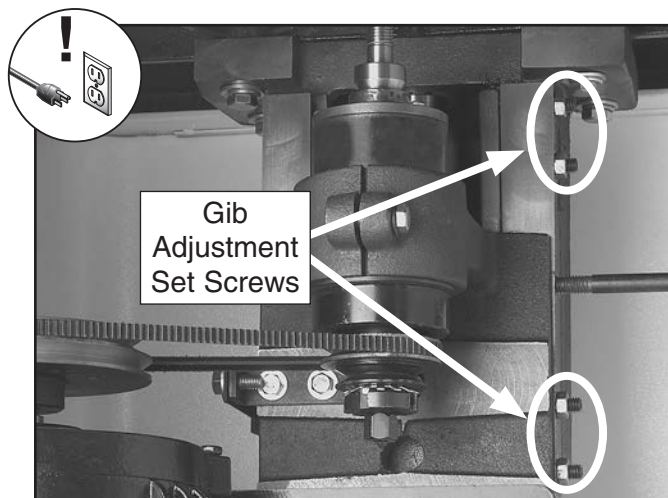

Figure 78. Gib adjustment screws.
2. Loosen the jam nuts on the gib adjustment set screws (see **Figure 78**).